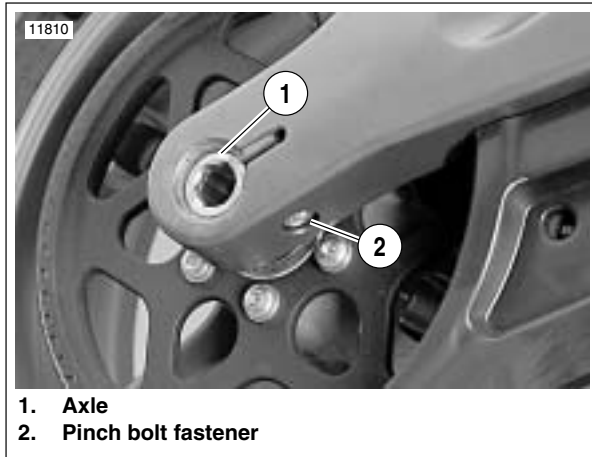

Figure 6-105. Rear Wheel Mounting, Right Side
12. See Figure 6-105. Tighten rear axle (1) to 23-27 ft-lbs (31.2-36.6 Nm), back off two full turns and then retighten to 48-52 ft-lbs (65.1-70.5 Nm).
13. Tighten pinch fastener (2) on right side of swingarm to 40-45 ft-lbs (54-61 Nm).